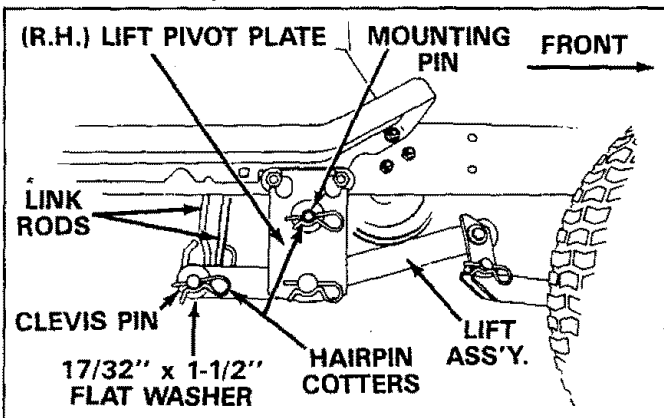

FIGURE 30
2. Refer to figure 30 below and;